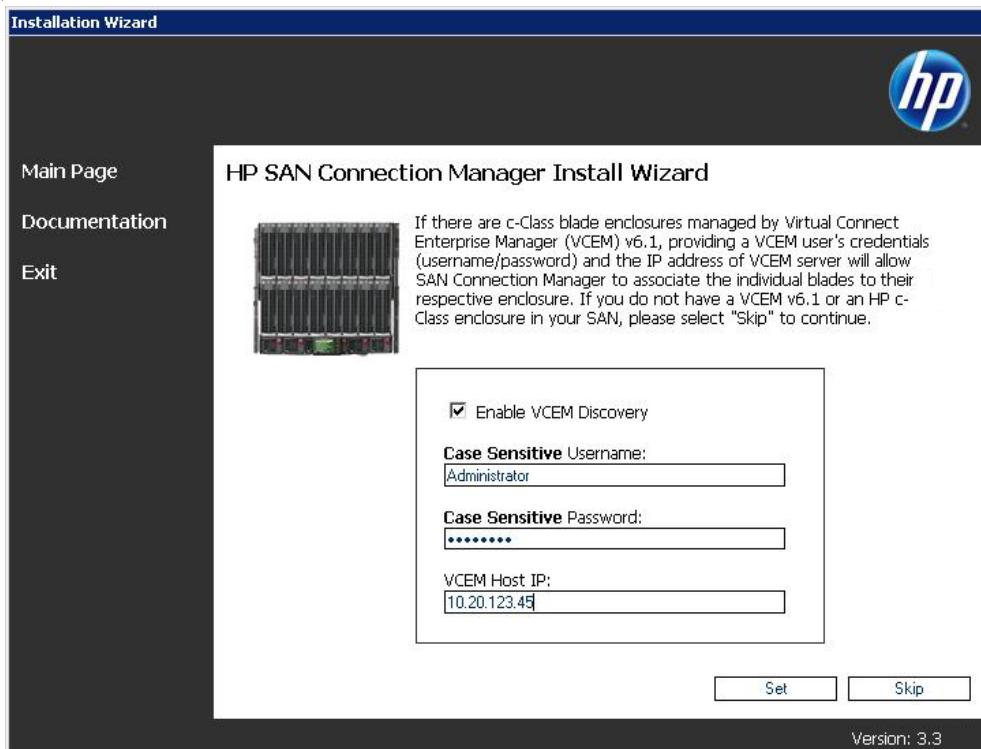

Figure 4 Installation wizard: Enable VCEM Server Enclosure Discovery
9. The Enable VCEM Discovery dialog box (Figure 4) enables you to view your blade enclosures in the topology if you have a configured VCEM server. Choose one of the following options: